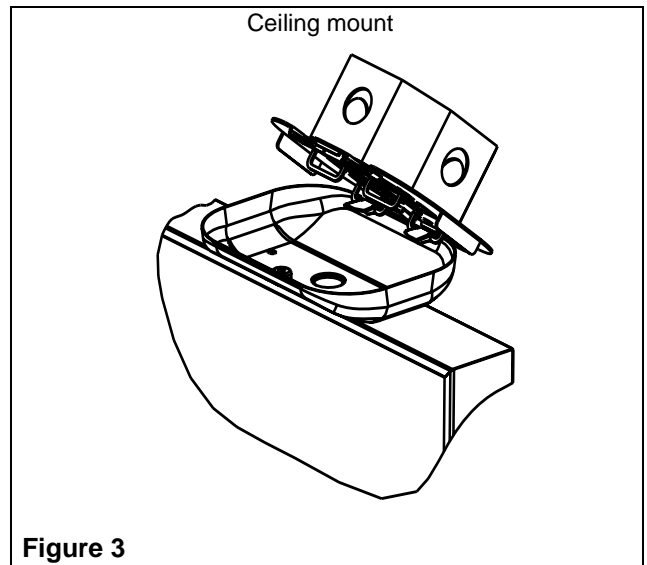

Figure 3
- c. Fasten the canopy to the exit using #8-32 short screws and hex nuts provided (see fig. 3)
- f. Make the proper wire connections. The “Quick-install” canopy is equipped with ribs allowing you to hang the unit to the spider plate to facilitate wiring (See fig.3). Feed the excess wire into the junction box and secure the canopy to the junction box using the long screw provided(8).